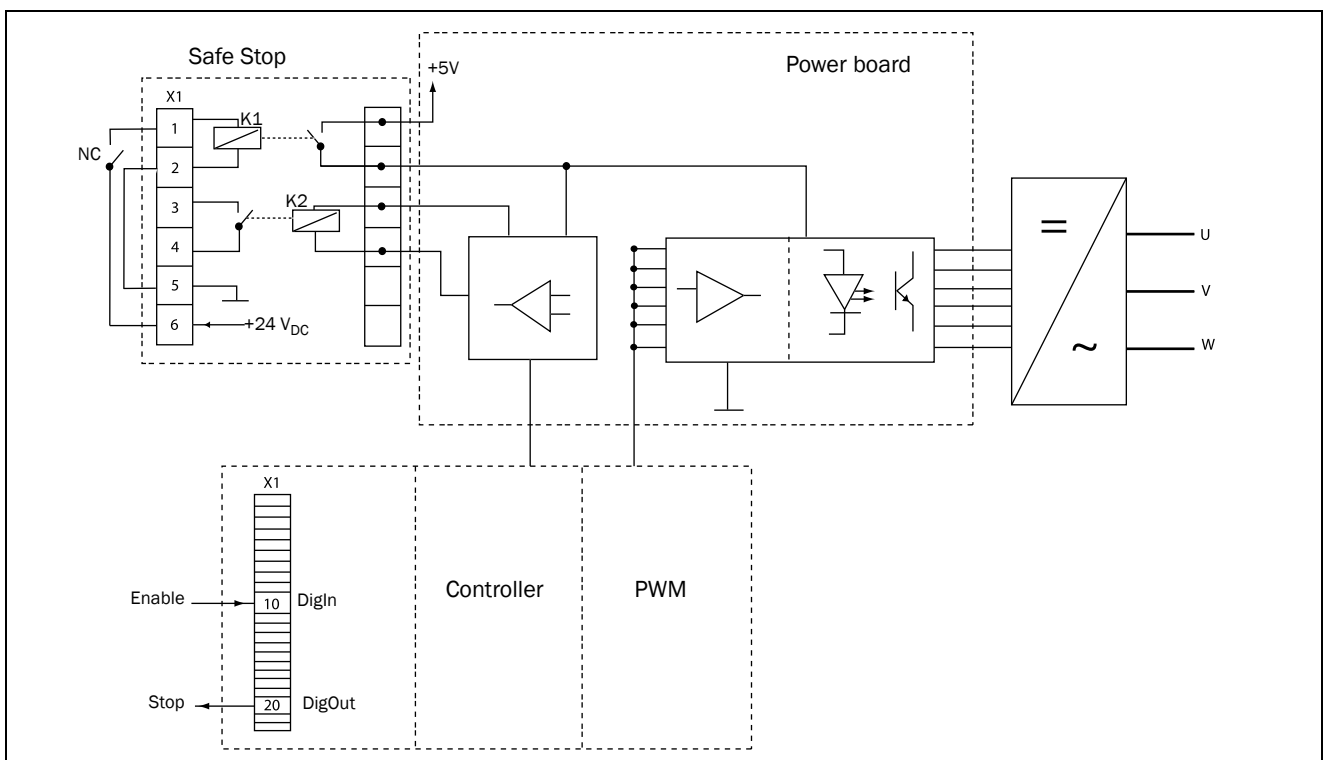

Fig. 131
- "Inhibit" input, terminals 1 (DC+) and 2 (DC-) on the Safe Stop option board should be made active by connecting 24 V_{DC} to secure the supply voltage for the driver circuits of the power conductors via safety relay K1. See also Fig. 131.
- High signal on the digital input, e.g. terminal 10 in Fig. 131, which is set to "Enable". For setting the digital input please refer to section 11.5.2, page 139.
terminal 20 in the example Fig. 131, please refer to section 11.5.4, page 145 [540].